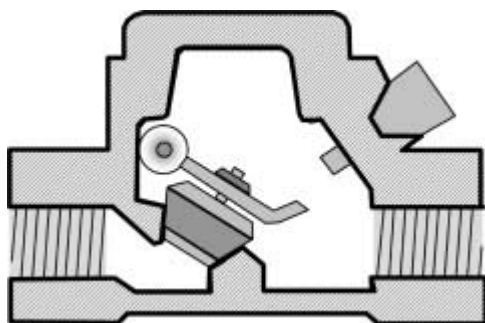

FIGURE 6.18 Swing type check valve.
*Check valves* are used to prevent backflow through piping. There are many different kinds of check valves. Figure 6.18 shows a swing-type check valve that allows flow from left to right, but the valve will close and seal if reverse pressure is experienced. Check valves are used to prevent backflow on refrigerant pipes, city water make-up lines, and steam condensate lines.